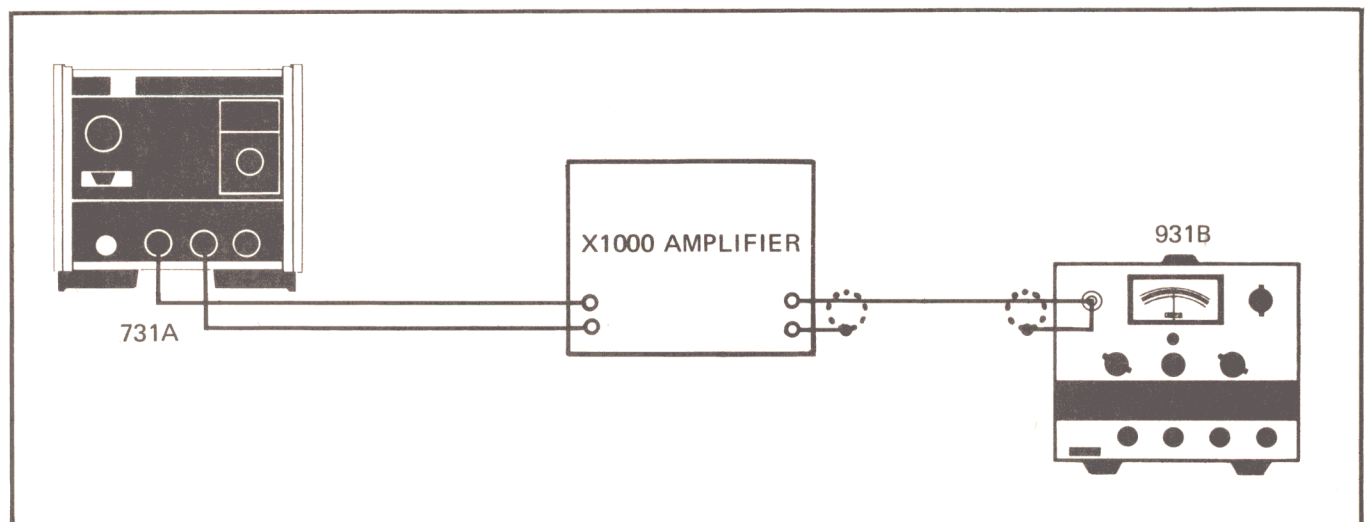

Figure 4-3. EQUIPMENT CONNECTIONS FOR 1 HZ TO 1 MHZ OUTPUT NOISE TEST.
- a. Connect equipment as shown in Figure 4-3